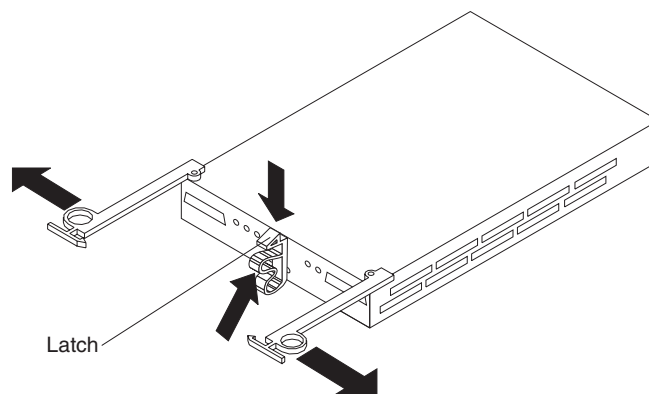

Figure 47. Removing the failed ESM
11. Push down on the ESM latch. While holding down the ESM latch, grasp the pull rings and pull out on the levers to disconnect the ESM from the EXP100 midplane. The ESM levers will pop out of the locked position, as shown in Figure 47.